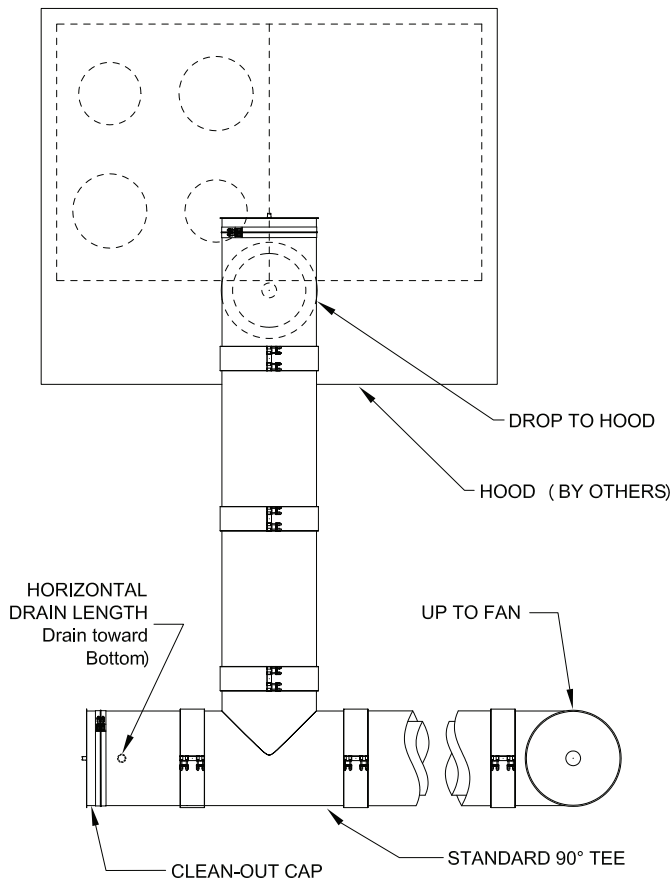

Figure 83 - Horizontal Drain Length typical location (Top View)
3. The duct drain is intended for use at the end of a horizontal run where access and drainage is needed (See **Figure 83**).